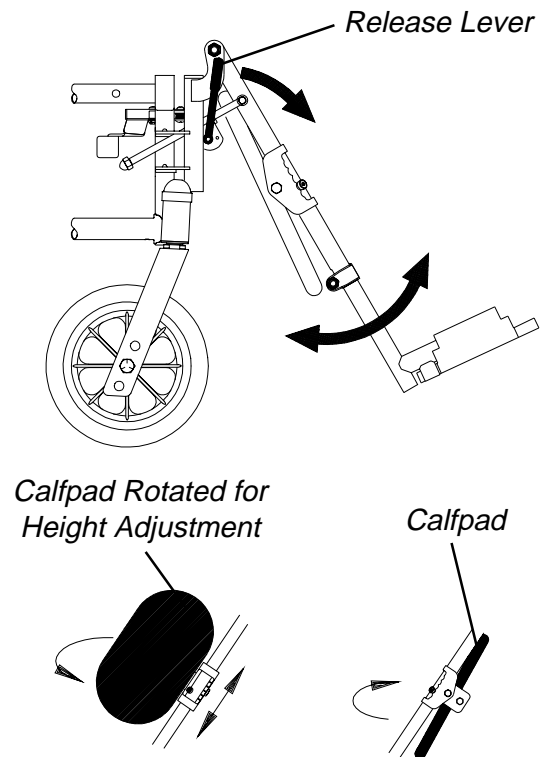

FIGURE 5 - ADJUSTING THE ELEVATING LEGREST ASSEMBLY
**ADJUSTING THE ELEVATING LEGREST ASSEMBLY (FIGURE 5)**
2. To reposition legrest to normal position, support leg with one (1) hand and push release lever downward with other hand.